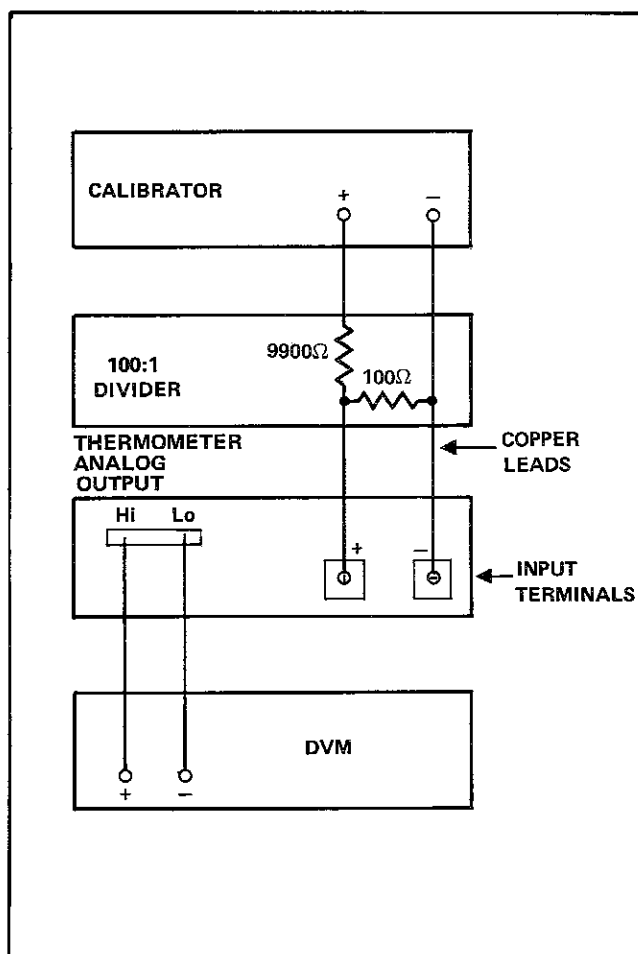

Figure 604-6.
- b. Complete the equipment connections shown in Figure 604-6. Use copper wire to interconnect the divider output and the thermometer input.